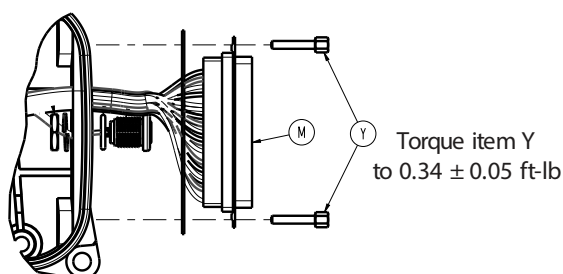

Figure 13 – 37-pin cable configuration
7. Using a #2 Phillips screwdriver, remove the two jack screws (Y) near the 37-pin cable (M) that secure the cable routing tray to the body (Figure 13). Save the screws.
8. Using the 3/16" socket and 1/4" ratchet, remove the two jack screws (Y) that secure the 37-pin cable (M) (Figure 13). Save the screws.
8. Using the 3/16" socket and ratchet, remove the two jack screws (Y) that secure the 37-pin cable (M) (Figure 13). Save the screws.